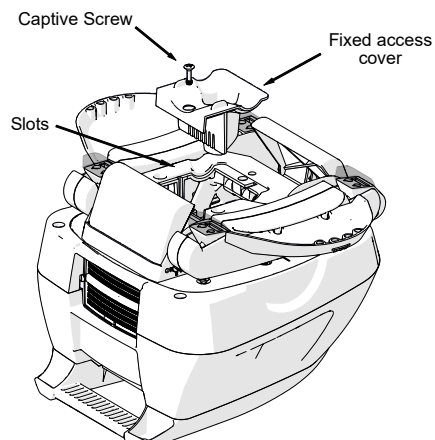

Fig. 10
4. Lift fixed access cover (see Fig. 10).